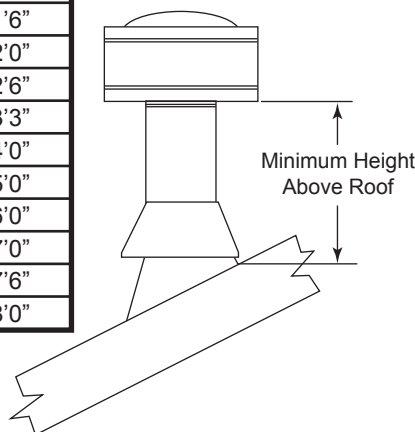

Fig. 44 Minimum Height Above Roof Requirements
**NOTE:** Frame openings to the dimensions specified in the framing table for the cathedral ceiling support box (CCS), the ceiling support (SC) and wherever the firestop spacer (FS) is being used.
10. Tighten the tabs of the collar. Secure the support collar by inserting three (3) #8 x 1/4" sheet metal screws through the support collar and the outer wall of the pipe.
11. Add lengths of pipe and firestop as necessary until assembly extends to a point above the roof which complies with local code requirements for minimum termination height and with the appliance manufacturer's installation instructions. (Fig. 44)